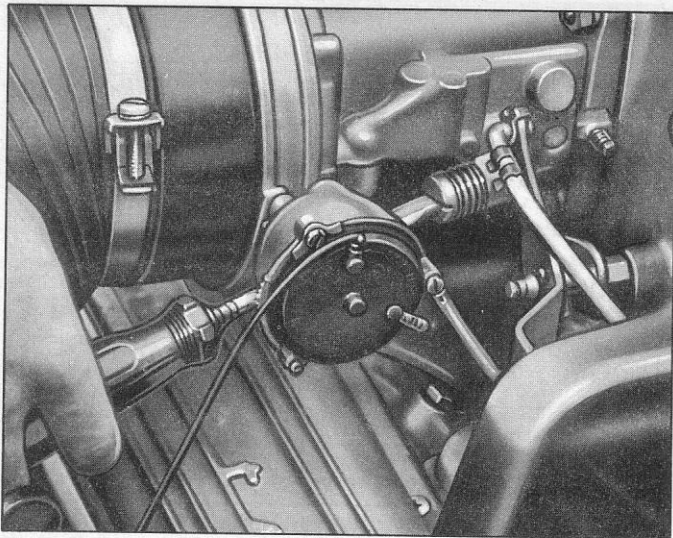

Fig. 20—Adjusting Idle Speed Screw
2. With the engine running, bring the idle speed up to approximate specifications by adjusting the idle speed screw (fig. 20). (See Specifications Section.)